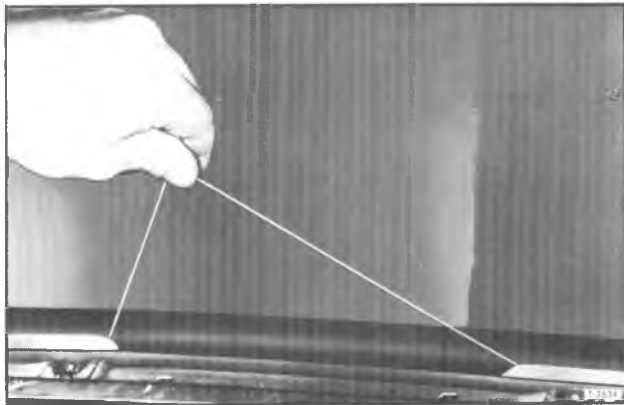

Figure 5—Pulling Cord to Seat Rubber Lip (Conv. Cab Model)
- a. Pull on loose ends (fig. 5) until each is within 2 inches of its respective upper corner.